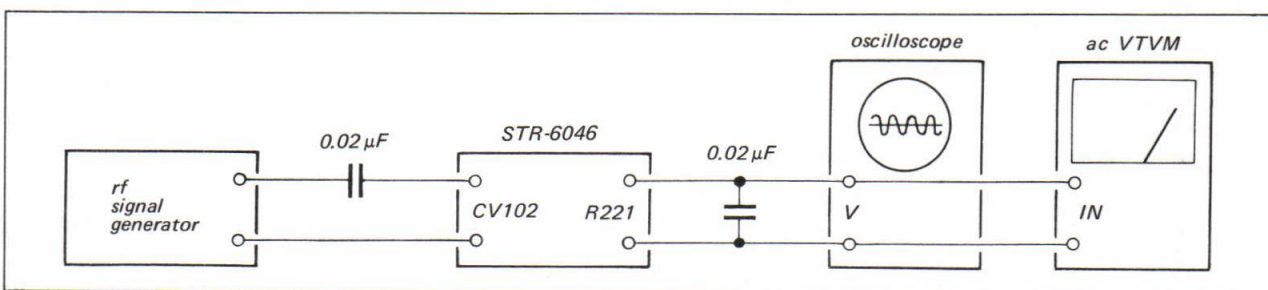

Fig. 3-7. Test setup for fm discriminator alignment by rf signal generator
1. With the equipment connected as shown in Fig. 3-7, set the signal-generator's controls as follows: